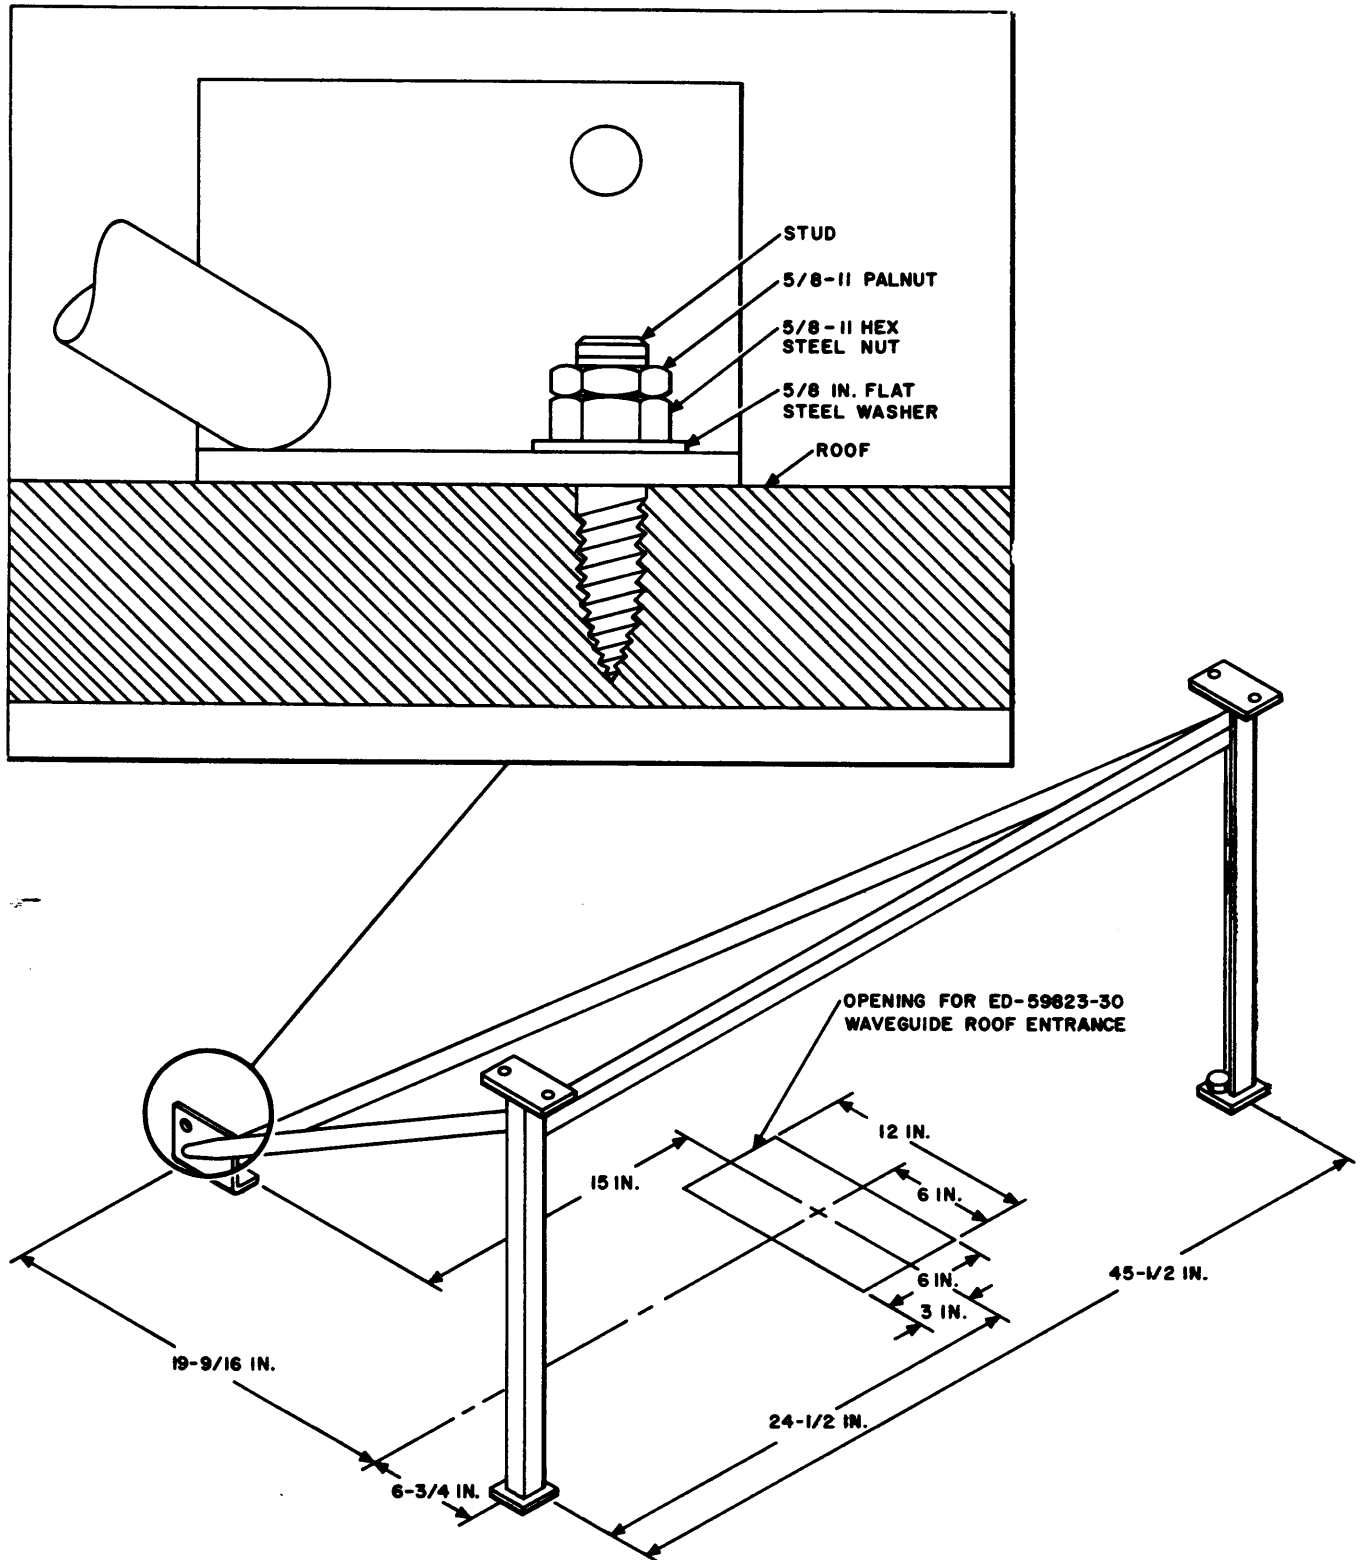

Fig. 15—P-44R911 Antenna Support Assembly, Installation Procedure
the antenna utilizes a P-44R911 antenna support Assembly, shown in Fig. 15.
**5.53** The method of attaching the P-44R911 antenna support assembly, ED-59823-30 roof entrance assembly, and the azimuth turnbuckle shall be job engineered. With the aid of Fig. 15, local supervision shall plan and expedite the preliminary task of preparing the roof for the installation of the antenna support assembly and roof entrance assembly. The following procedures should be used where practicable:
(a) To prevent water seepage, do not use through bolts in the roof. Instead, studs (threaded 5/8-11) should be placed into the roof and cemented in place. Allow sufficient stud projection above roof for attachment of antenna support assembly flange, washer, hex nut, and Palnut. (See Fig. 15.)
**5.54** After the necessary preparations have been completed on the roof, place the mounting flanges of the antenna support assembly over the mounting studs in the roof. Secure with four 5/8 flat washers, 5/8-11 hex nuts, and 5/8 Palnuts as shown in Fig. 15.